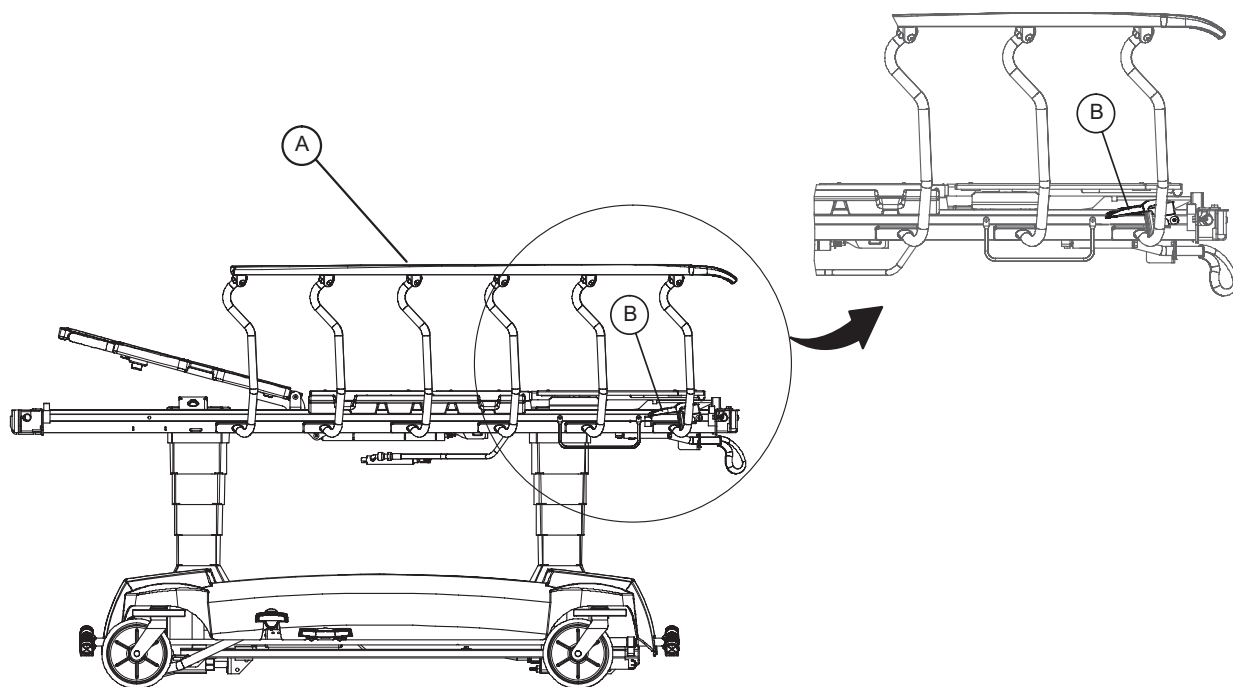

Figure 6 - Siderails
To raise the siderails: Pull up on the siderail (A) and raise it to the full up position until the latch (B) engages as shown in Figure 6.
To lower the siderails: Pull up on the latch (B) and guide the siderail to the full down position as shown in Figure 6. The latches (B) are colored yellow for easy identification.